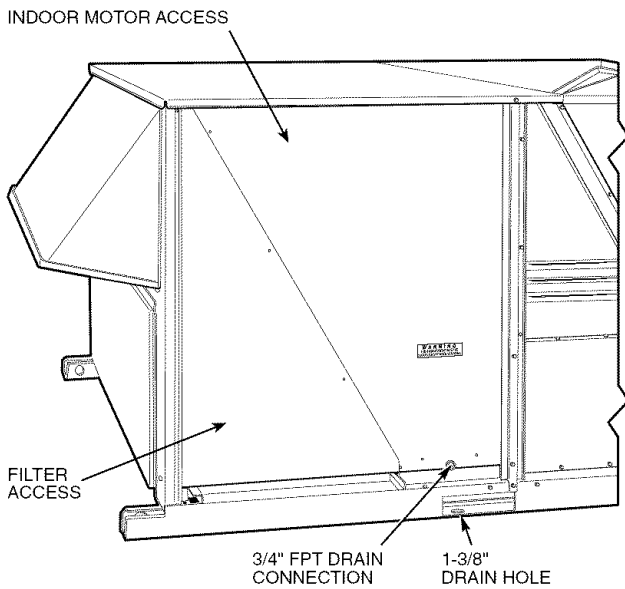
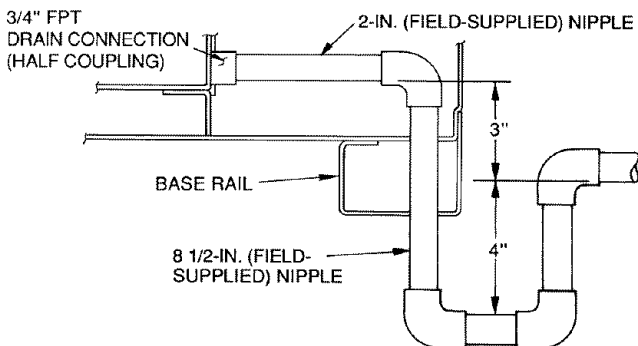

Fig. 10 — Condensate Drain Details (48HJ015 Shown)
Fig. 11 — Condensate Drain Piping Details
Step 6 — Trap Condensate Drain — See Fig. 10 for drain location. One 3/4-in. half coupling is provided inside unit evaporator section for condensate drain connection. An 8 1/2-in. x 3/4-in. diameter and 2-in. x 3/4-in. diameter pipe nipple, coupled to standard 3/4-in. diameter elbows, provides a straight path down through hole in unit base rail (see Fig. 11). A trap at least 4-in. deep must be used.